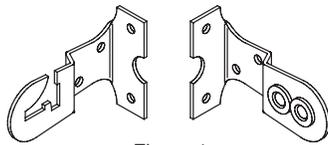

Figure 1
- ① Mount brackets according to type of installation. Use appropriate fasteners (two per bracket) for wall, jamb or ceiling (see Fig. 1). **The installer is responsible for selecting mounting hardware appropriate for site conditions.**